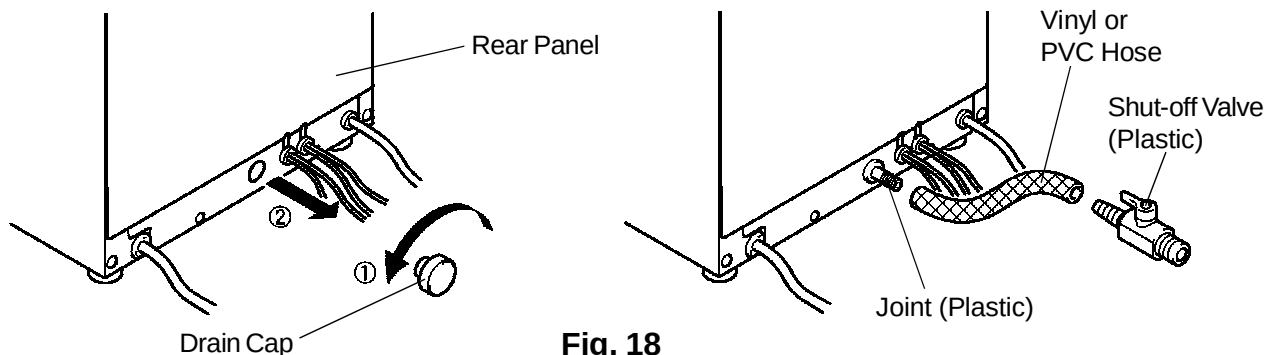

Fig. 18
* Prepare a drain hose with a plastic shut-off valve if water needs to be removed from the unit or water may freeze in the unit in cold areas. Remove the drain cap on the back of the unit and attach the plastic joint, vinyl or PVC hose and plastic shut-off valve. Drain outlet is 3/4" female pipe thread (FPT). See Fig. 18.